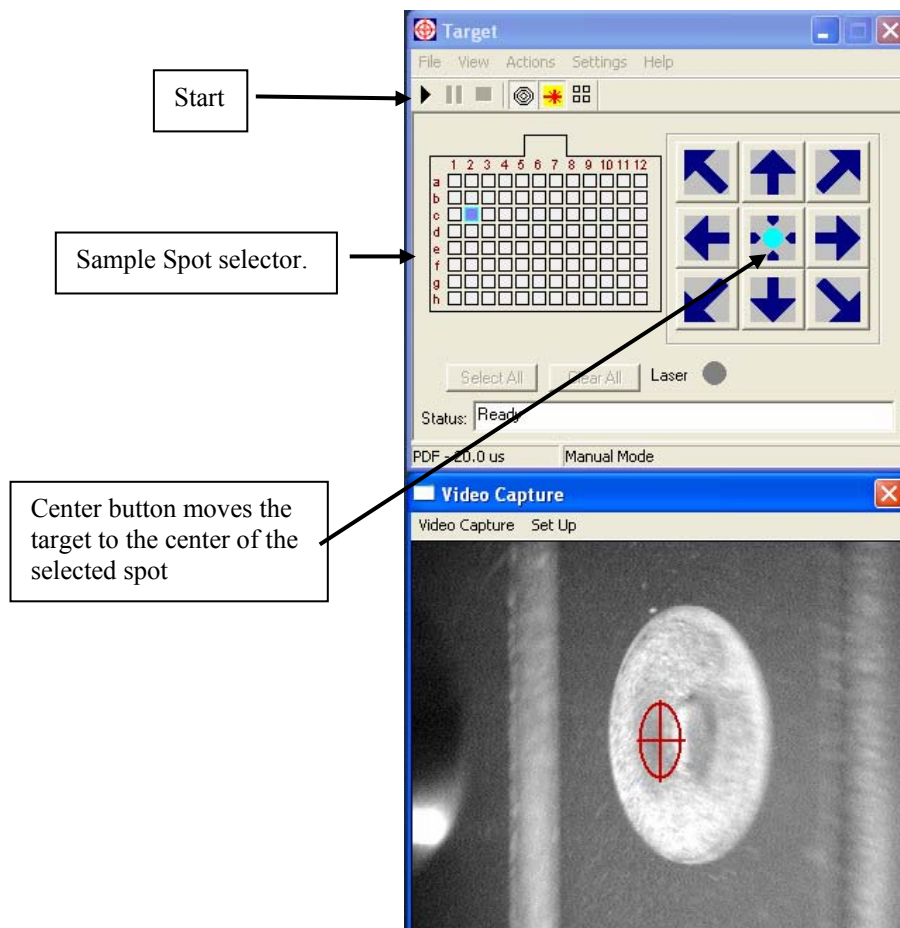

Fig. 7-1. Target software started, properly initialized and ready
Start the Target program by either double-clicking on the desktop shortcut, or the target.exe file. The Target window (Fig. 7-1) appears.
4. Click on the desired sample using the sample spot selector (map) provided in the *TARGET* software window (see Fig. 7-1). The target plate will move to this sample position and stop near its center (this is observable on the Video Capture imaging system).